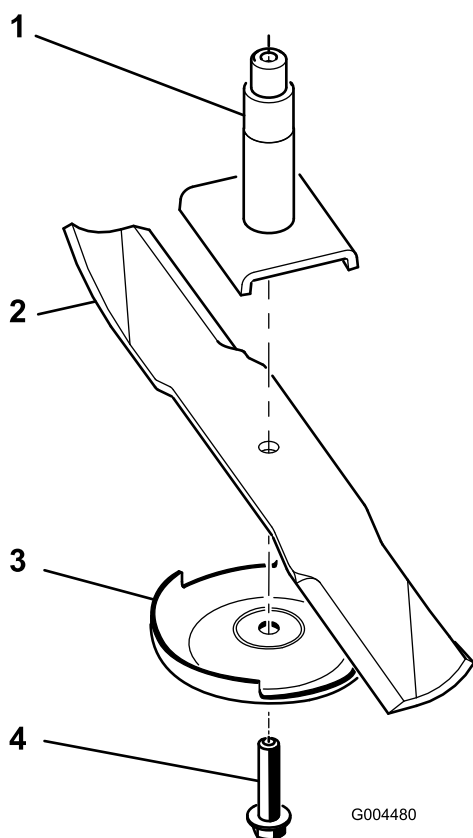

Figure 97
2. Remove the blade bolt, anti-scalp plate, and blade from the spindle shaft (Figure 97).
Note: If the blade stays in a horizontal position, the blade is balanced and can be used. If the blade is not balanced, file some metal off the end of the sail area only (Figure 97). Repeat this procedure until the blade is balanced.
1. Install the blade onto the spindle shaft (Figure 97).
2. Install the anti-scalp plate and blade bolt (Figure 97).